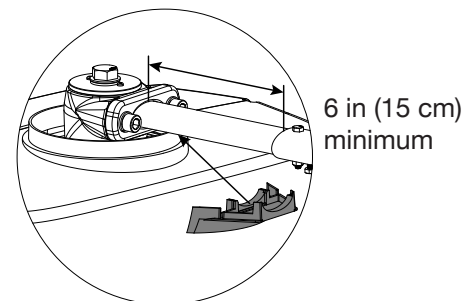

Figure 31. Position the Top Cap Shield
2. Position the top cap shield underneath the operator arm. (Figure 31.)